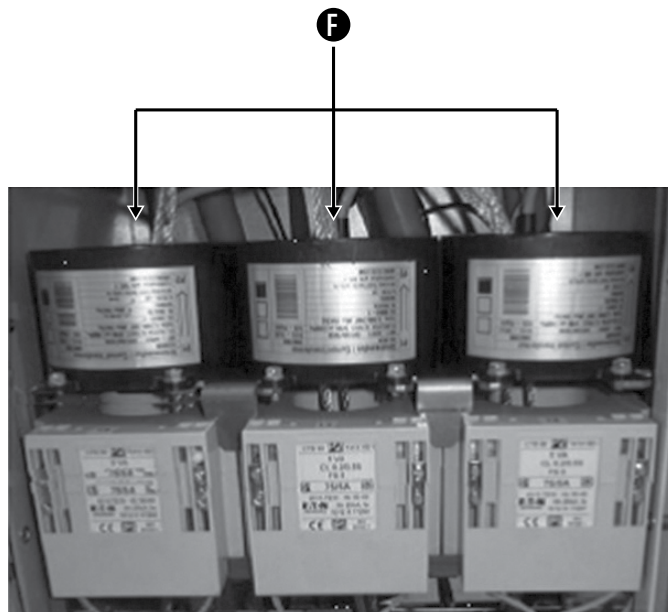

Figure 3-9: Current transformers with pre-mounted earth wires
2. Remove the current transformers for protection (A) by removing the two bolts on the front (B). See figure 3-9. The secondary wiring does not need to be disconnected.
3. Behind these current transformers, a mounting plate fixed with bolts (C) becomes visible. Remove these bolts and remove the mounting plate.
4. The current transformers for metering (D) can now be lifted and removed. See figure 3-9. Remove the ty-rip from the secondary wiring. The secondary wiring does not need to be disconnected.
AFTER REMOUNTING THE CURRENT TRANSFORMERS, THE EARTH SCREEN CONNECTIONS OF THE PRIMARY CABLES MUST BE CONNECTED TO THE EARTH VIA THE PRE-MOUNTED EARTH WIRES (F). SEE FIGURE 3-9. IN THIS CASE, ANY EARTH CURRENT THROUGH THESE CONNECTIONS WILL NOT INFLUENCE THE METERING RESULTS.